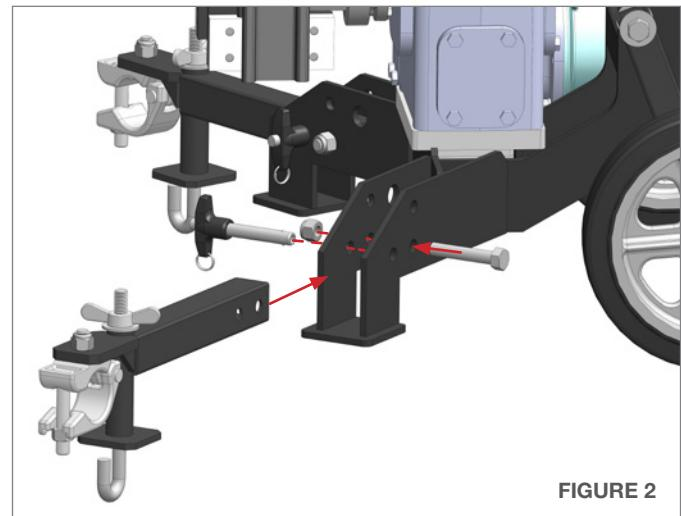

FIGURE 2
2. Insert the Downrigger Leg Assembly and secure with the 1/2" Bolt, Lock Nut, and Quick Release Pins as shown in (**Figure 2**).